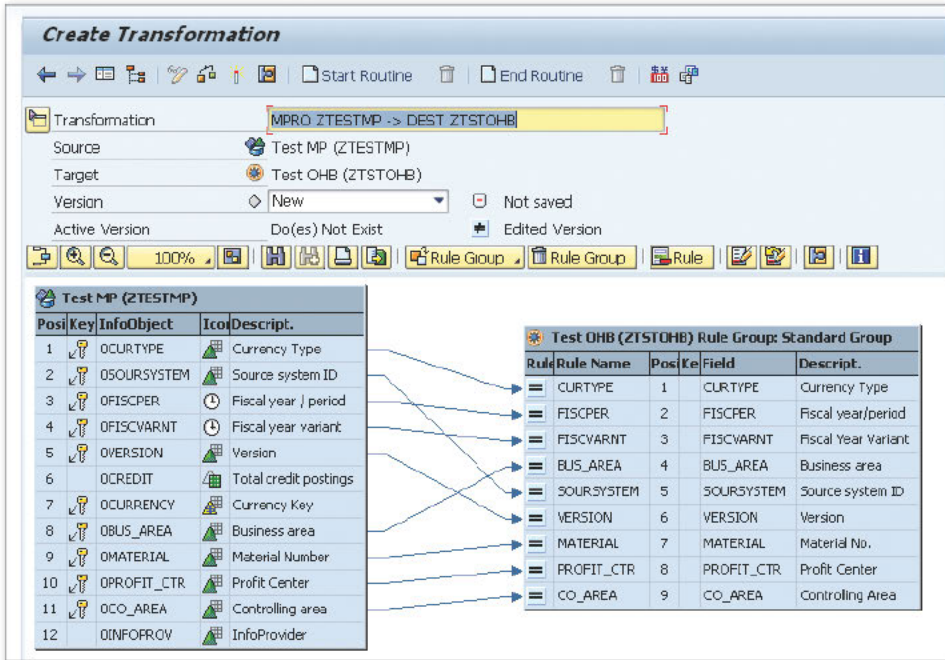

Figure 2 Defining Transformation Rules for the MultiProvider to Open Hub Destination
7. Map the appropriate fields in the transformation and activate the transformation (see Figure 2). Create the DTP for the transformation.